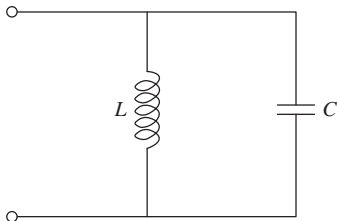

Figure P2.22 Parallel connection of L and C .
- 2-22.** Consider a capacitor C and an inductor L connected in parallel, as shown in Fig. P2.22. The total reactance X in ohms is given by $X = \frac{\omega L}{1 - \omega^2 LC}$, where ω is the angular frequency in rad/s.